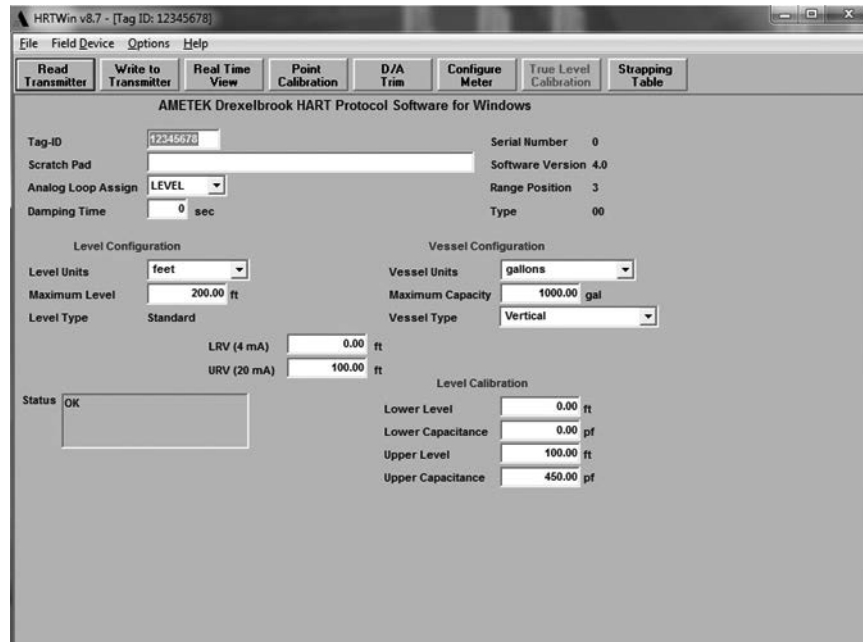

Figure 3-3
- G. The next view, shown in *Figure 3-3*, appears automatically, displaying current transmitter database for calibration set-up for your selected Tag ID. The Scratch Pad will automatically show the last message (last user, last calibration, etc.) up to 32 characters. If this is a new transmitter, the Tag ID is user-defined. Serial number, transmitter software version, range, etc. is automatically entered from the "name plate data" embedded in the transmitter:
Figure 3-3 shows a PC calibration software menu screen. The following paragraphs describe the function buttons. The data fields are described in *Section 3.4 Configuration*.
Refer to *Figure 3-3* PC Software Menu Screen.